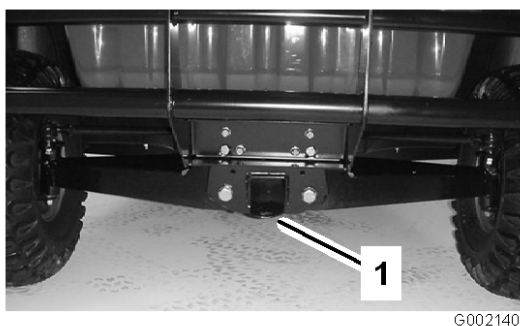

Figure 28
For moving the vehicle long distances, a trailer should be used. Make sure that the vehicle is secured to the trailer. Refer to Figure 27 and Figure 28 for the location of the tie-down points.
2. Affix a tow line to the tongue on the front of the frame (Figure 28).